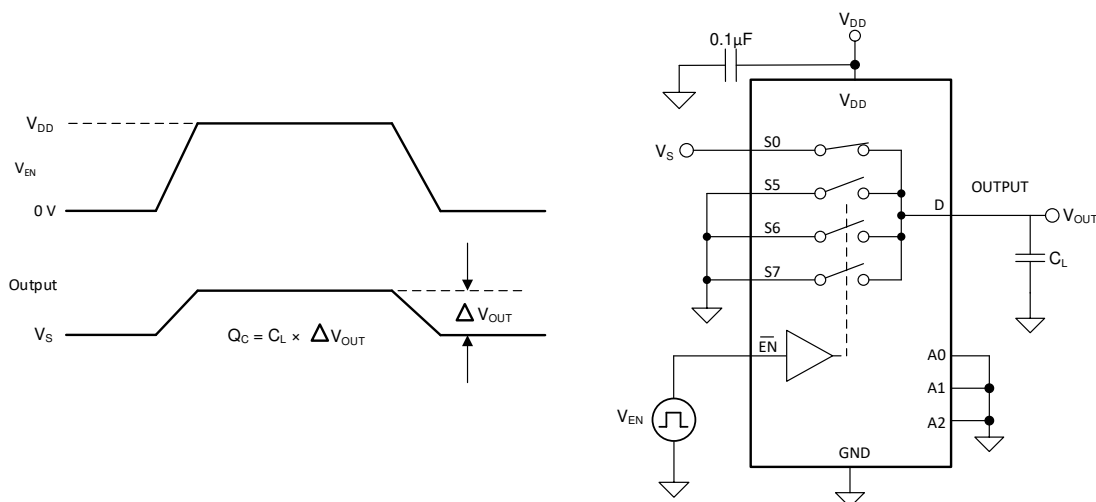

Figure 7-7. Charge-Injection Measurement Setup
The TMUX1308A-Q1 and TMUX1309A-Q1 device have a transmission-gate topology. Any mismatch in capacitance between the NMOS and PMOS transistors results in a charge injected into the drain or source during the falling or rising edge of the gate signal. The amount of charge injected into the source or drain of the device is known as charge injection, and is denoted by the symbol  $Q_C$ . Figure 7-7 shows the setup used to measure charge injection from source ( $S_x$ ) to drain (D).